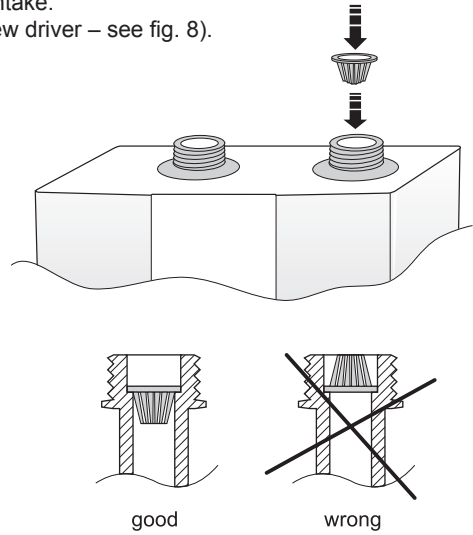

Fig. 5
3. Connect heater in a way showed on fig. 6. Remember to fit water filter as showed on fig. 5. Use flexible hoses designed for pressurized system with rubber gaskets. Do not exchange heater outlet (red colour) with intake (blue colour).